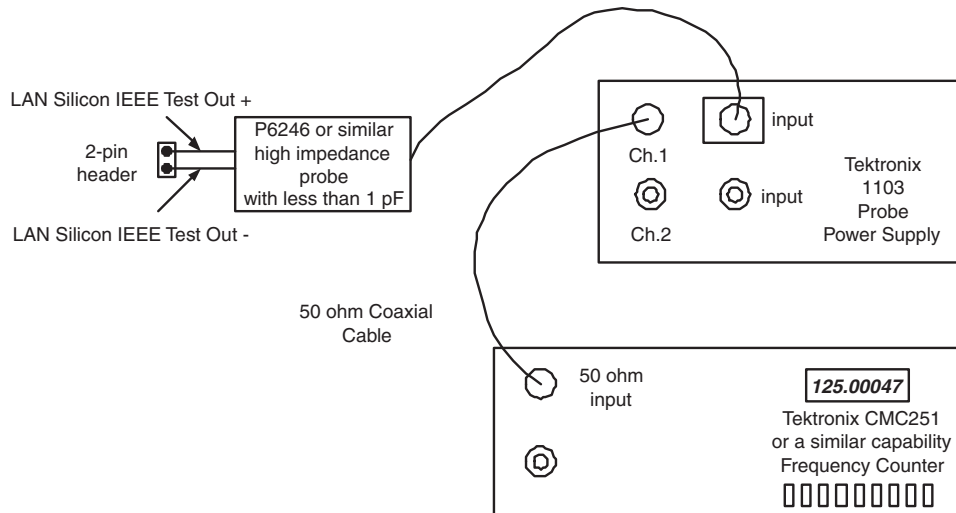

Figure 13. Indirect Probing Setup
Almost all Intel LAN silicon that support 100BASE-T Ethernet can provide a buffered 125 MHz clock, which can be used for indirect probing of the transmitter reference clock. The buffered 125 MHz clock will be a 5X multiple of the crystal circuit's reference frequency (Figure 13).
2. Connect the test equipment as shown in Figure 13.